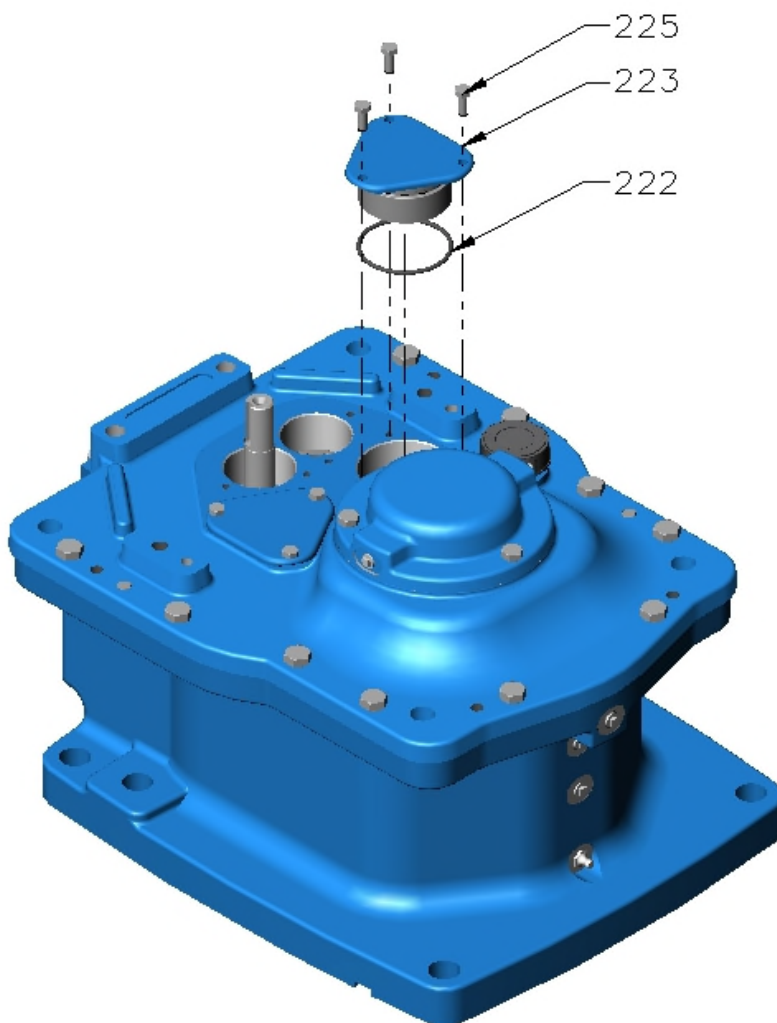

Figure 4 – 2nd Intermediate Cap
D. At 2nd intermediate shaft, remove the following items (refer Figure 4):